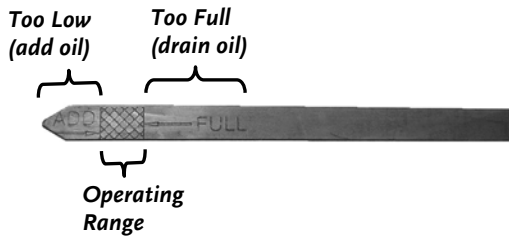

Figure 10
3. Replace the Dipstick all the way in and turn a quarter turn clockwise to ensure an accurate reading and then remove it to check the oil level (**Figure 10**).